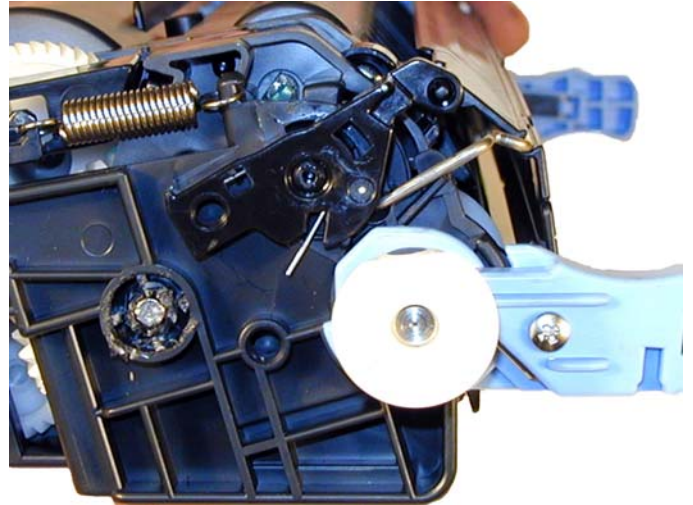

Figure 17
6) Remove the drum cover by prying up the spring assembly, and pulling the metal bars out of their slots. Be careful not to lose the spring! See **Figures 17 & 18**